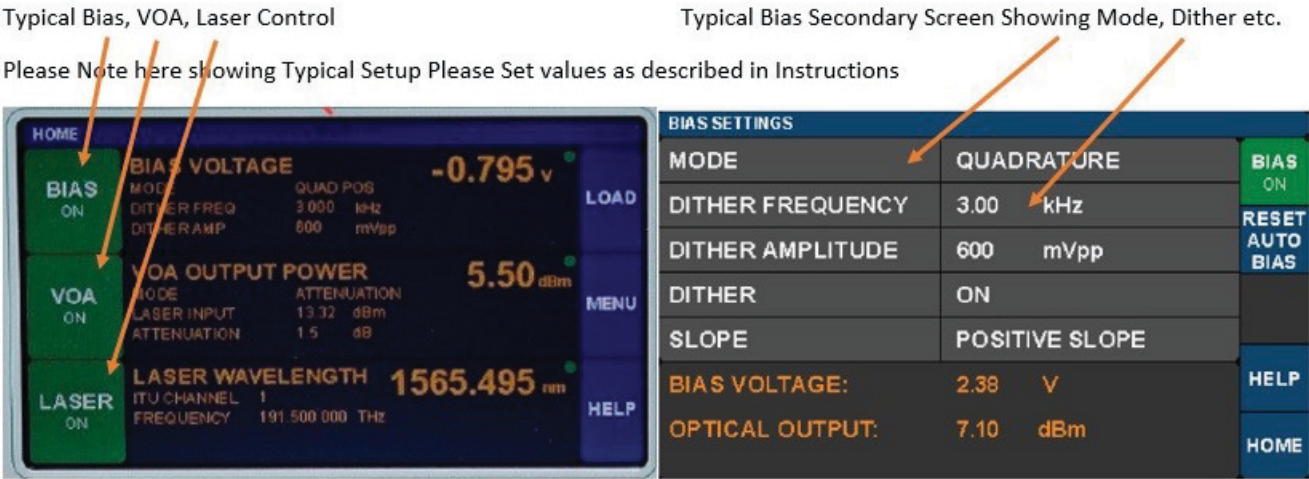

Figure 3-37. E/O Converter Setup Screen
9. Make settings on MN4775A-0070 via the display touch screen as described below; refer to Figure 3-37 (left side).
- a. Touch center section of VOA OUTPUT POWER region to bring up secondary screen as shown in Figure 3-37 (left side).
- a. Touch center section of BIAS VOLTAGE region to bring up secondary screen as shown in Figure 3-37 (right side).